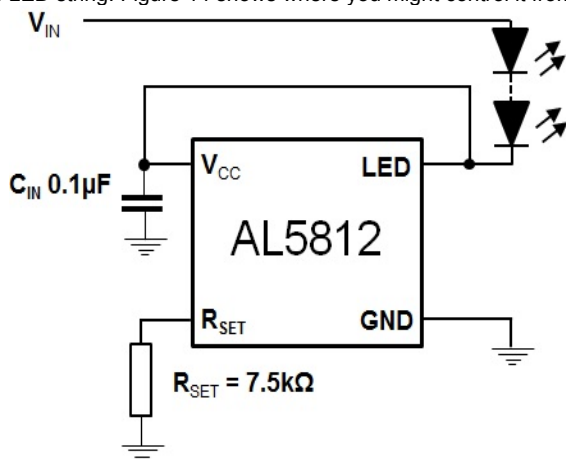
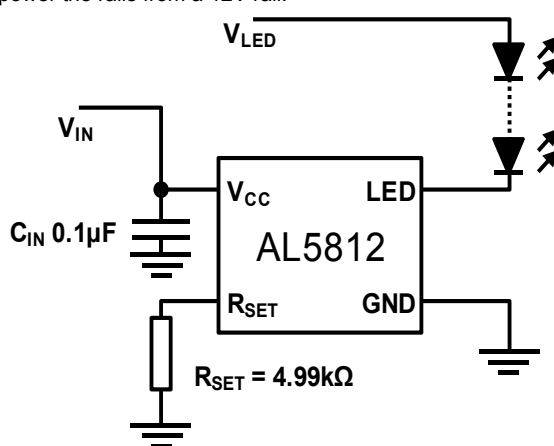
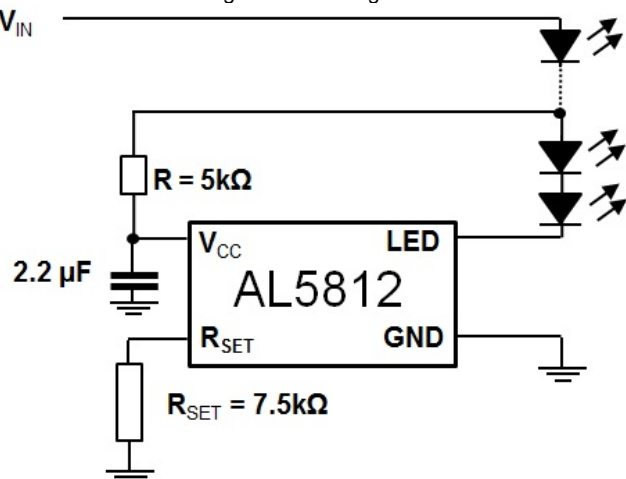
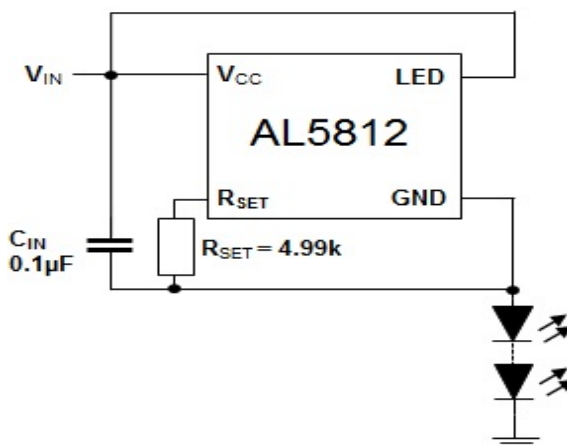

Figure 13 Low Side Current LED Setting
Figure 14 Low Side Drive – Separate Supplies
Figure 15 Low Side LED String Tapping
Figure 16 High Side Current LED String
13. The AL5812 has its  $V_{CC}$  pin connected to its LED pin, which are connected to the positive input supply voltage.  $R_{SET}$  is connected to AL5812 GND pin, which is connected to the anode of the LED chain. This creates a high side driver of the LED chain. See Figure 15.
The AL5812 is a Linear LED driver and in normal operation has the LEDs connected to the same potential as its  $V_{CC}$  pin and regulates the LED current by sinking current into to its LED pin see Figure 13.
The AL5812 with its 60V capability on its supply pin,  $V_{CC}$ , and its LED drive pin allows it to operate from supply rails up to 60V and/or directly drive LED chains up to 60V as shown in Figures 13 and 14. The voltage applied to the  $V_{CC}$  pin can be greater or lower than the voltage applied to the LED string. Figure 14 shows where you might control it from a 5-V rail but power the rails from a 12V rail.
An extension of Figure 14 is to derive the power for the AL5812 from the LED chain itself see Figure 15. LED chains greater than 60V can be driven in this manner as long PWM dimming is not utilized.
Figure 15 shows the use of RC delay to match the power time delay between Vcc and LED pin. The AL5812 can also be used on the high side of the LEDs, see Figure 16. This is a simple way of extending the maximum LED chain voltage, however, it does increase the minimum system input voltage to: